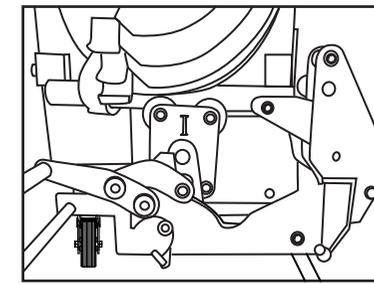

Fig 17
- B. When bending 1-1/2" and 2" Galvanized EMT or Galvanized IMC conduit, use the 1-1/2"-2" EMT/IMC Roller (9) by turning the assembly to reflect "E" for EMT or "I" for IMC. Roller Assembly Lock Handle (8) may have to be pulled to the left to allow roller assembly to be rotated (Fig 16). Once properly selected, raise the rollers from the retracted position to the upright (engaged) position by rotating the Roller Assembly Lock Handle (8) counter clockwise to lock and secure conduit in place, as shown in (Fig 17). Slight pressure to handle may be required at the start of the bend. Handle should lock into place once bending shoe starts to rotate.